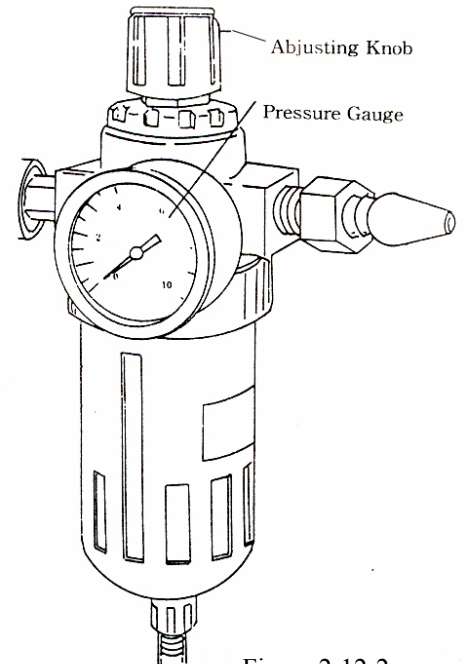

Figure 2-12-2
6. Pull up the adjusting knob and adjust the pressure to 70 psi .(Figure 2-12-2)